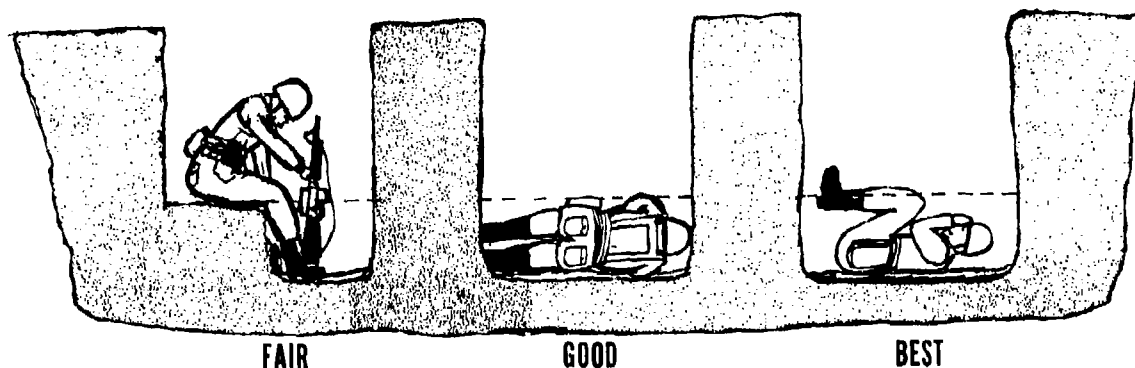

FIGURE 5. RECOMMENDED BODY POSITION IN A FOXHOLE.
--"Keep as low as possible." Lowering your body in the foxhole obviously puts more dirt between you and the potential source of radiation. Curling up on your side or, better yet, lying on your back with knees drawn up to the chest is best (see figure 5). Instinctively, lying on your back may seem to be a vulnerable position, but remember that the limbs of the body are not as vulnerable to radiation as the head or trunk. Tucked-up legs and arms even tend to shield the body from radiation, especially from neutrons, since the body is largely water and is therefore an excellent neutron shield. Bulky equipment such as packs or radios can be stored in an adjacent pit if they prevent getting as low as possible in the foxhole. Alternately, they can be placed over one's face and hands to provide additional radiation and blast protection.